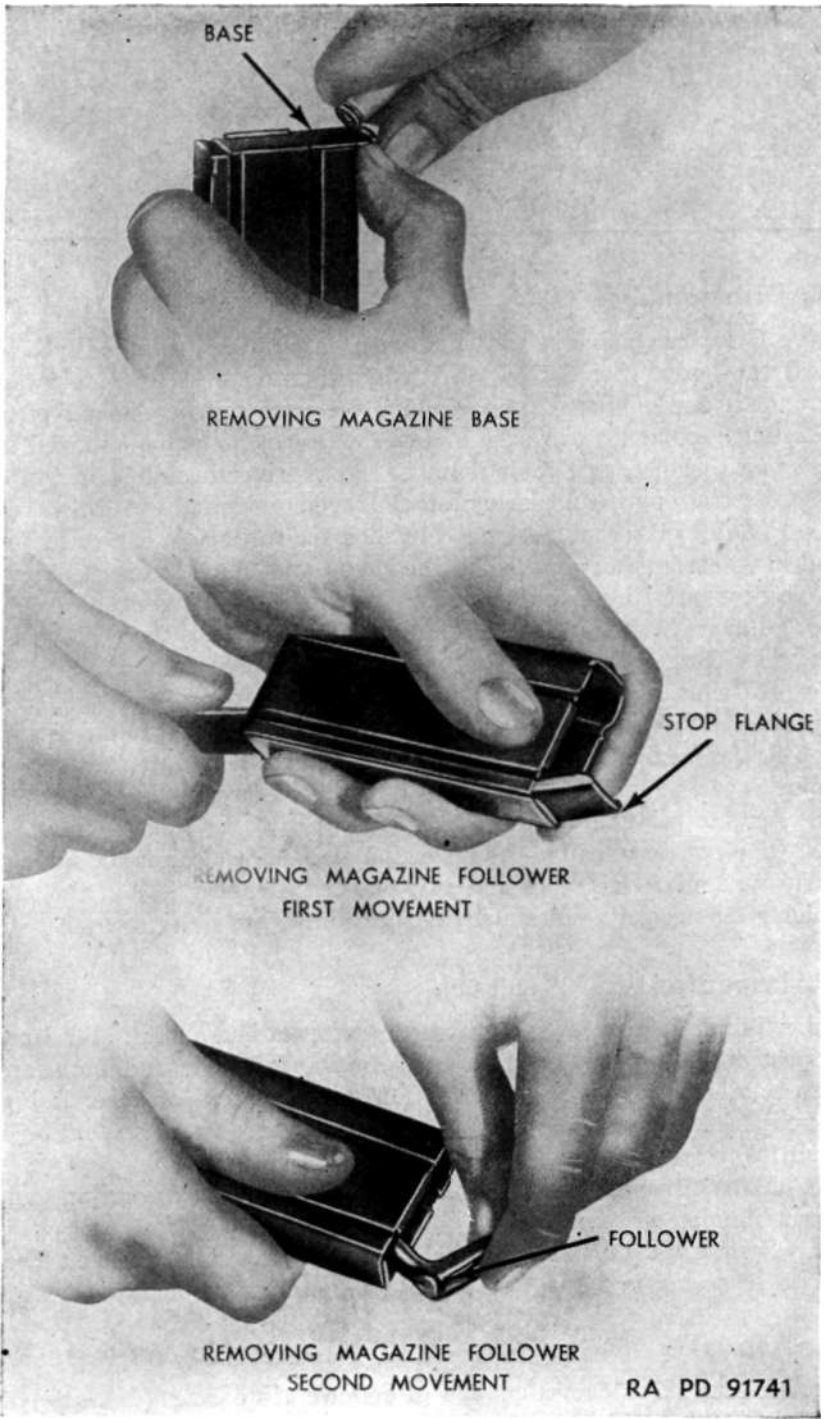

Figure 67. Removing magazine base and follower.
a. Grasp magazine in left hand with base up and rounded face toward the body. (See fig. 67.) With left thumb, press up on forward (rounded) end of magazine base until the base can be slid out of its retaining grooves in the base of body. Movement can be started by inserting rim of cartridge or point of screw driver in indent in top of base. Restrain magazine spring as base is removed, and withdraw from tube. (Bases of recent design are ribbed on the inside for stiffening, and have an overhanging lip on the round end. Such bases can be removed by inserting screw driver under lip and pulling up and out.)